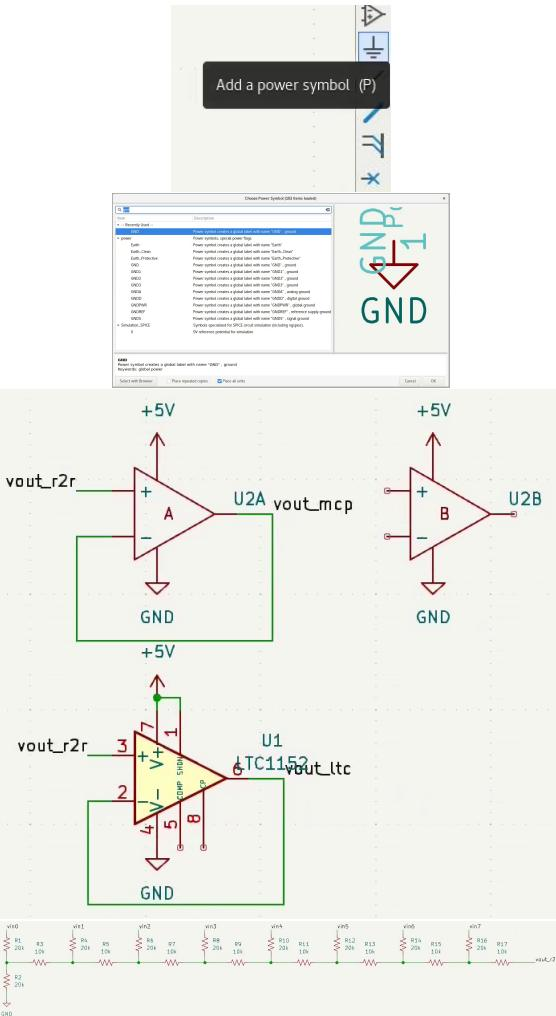

Figure 45: Power symbols added
9. Power supplies (in our case, +5V and ground) are usually included in schematics using a special set of "power symbols". These symbols act somewhat like net labels, in that all wires connected to the same type of power symbol will be connected together. Add power symbols by pressing "P". You can see a step by step image walkthrough in Figure 45. You will see multiple different GND power symbols; it doesn't matter which is chosen as long as it is consistent between each of the placed symbols (don't mix and match, since they won't connect). Remember to connect power and ground everywhere it is needed, and ensure that the 5V power net is connected to the shutdown pin on the LTC1152 so that the device is powered up.